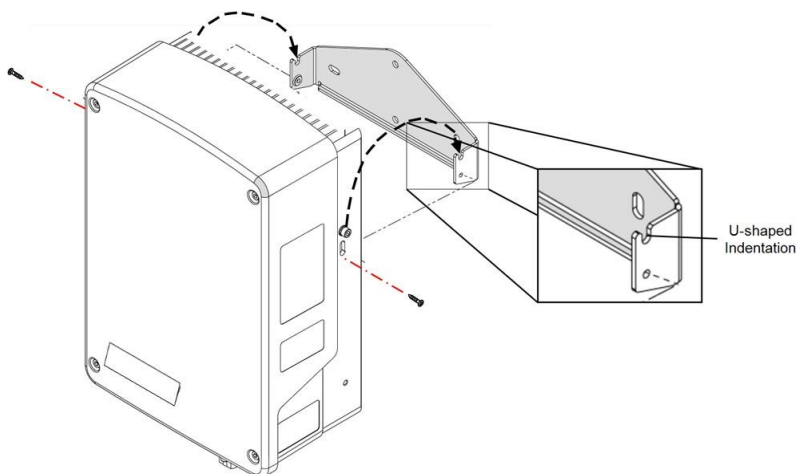

Figure 7: Hanging the device on the bracket
5. Lower the device onto the U-shaped indentations (see *Figure 7*). Let the device lay flat against the wall or pole.